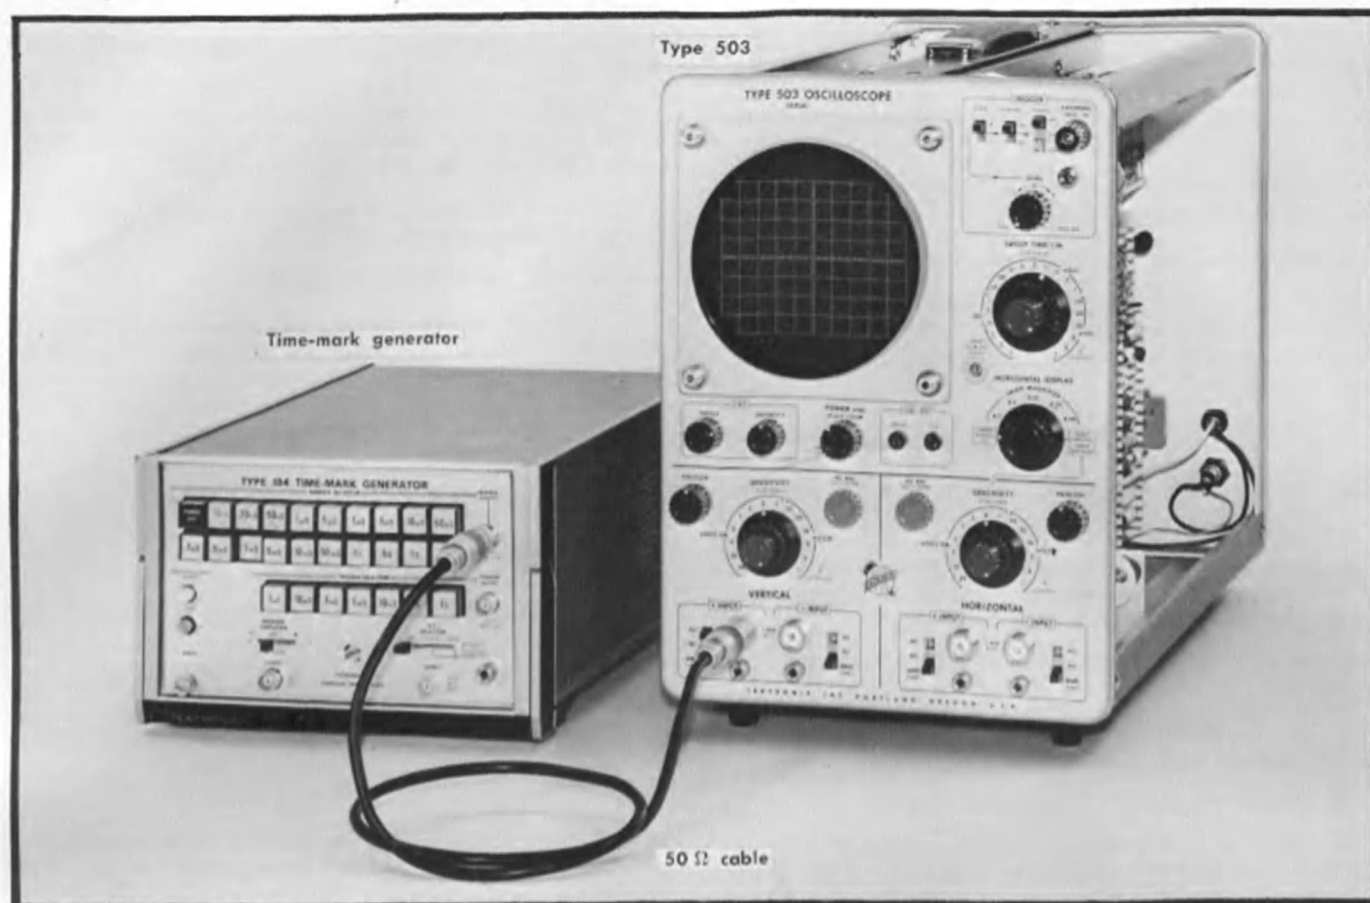
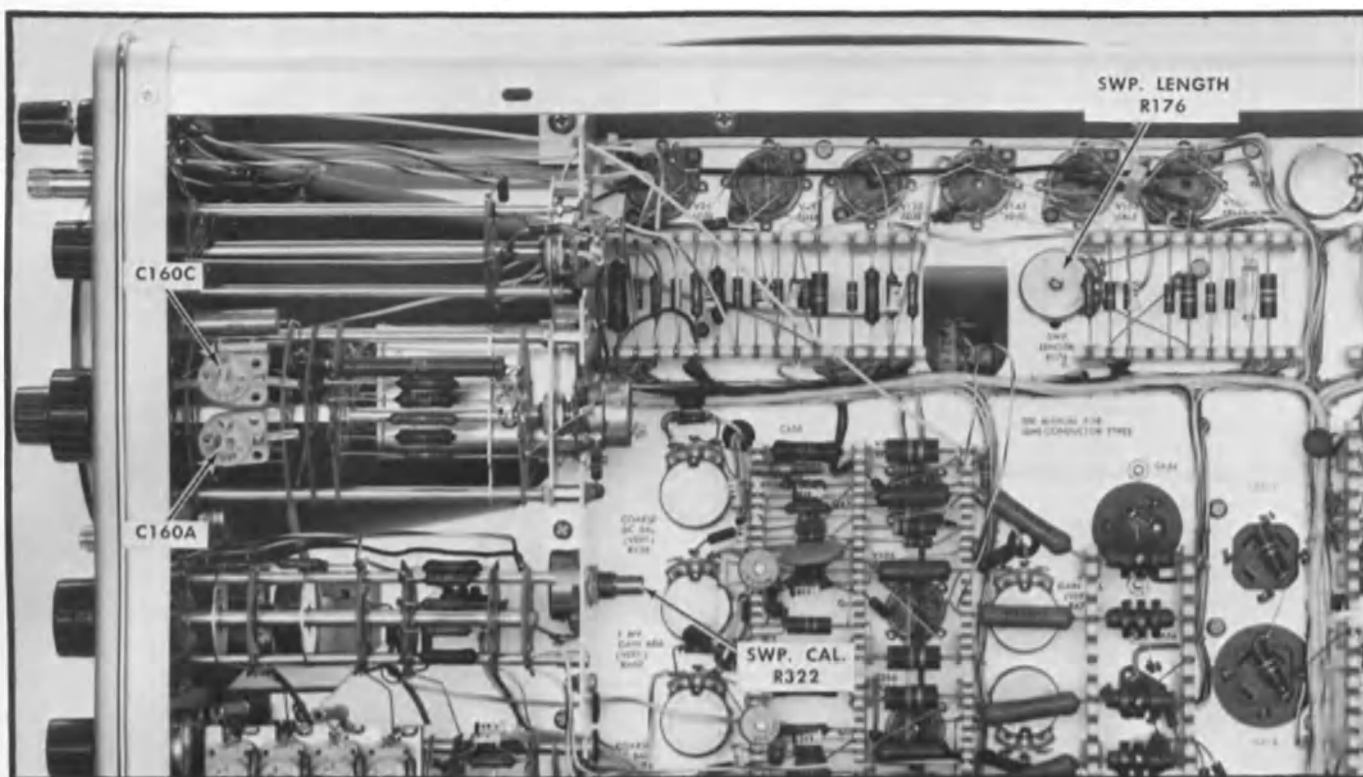

Fig. 6-29. Test setup for sweep timing adjustments.
Fig. 6-31. Sweep timing adjustment locations.
- Test setup is shown in Fig. 6-29.
- Set the time-mark generator (item 7 of Recommended Equipment) to supply 1-millisecond markers.
f. Adjust SWP. CAL R322 for 1 marker/cm. (The location of R322 is shown in Fig. 6-31.)